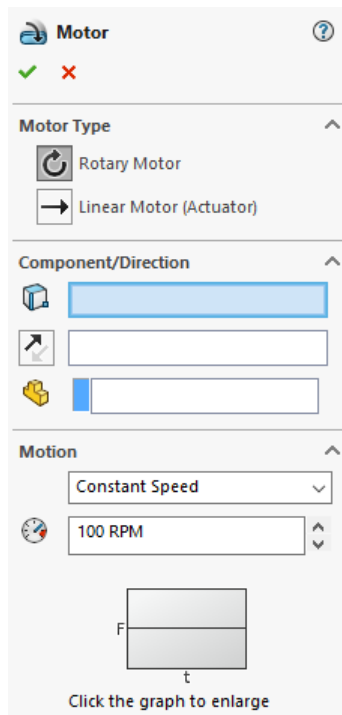

Figure 20-21 Partial view of the Motor PropertyManager
1. Choose the **Motor** button from the **MotionManager** toolbar; the **Motor PropertyManager** is displayed, as shown in Figure 20-21.